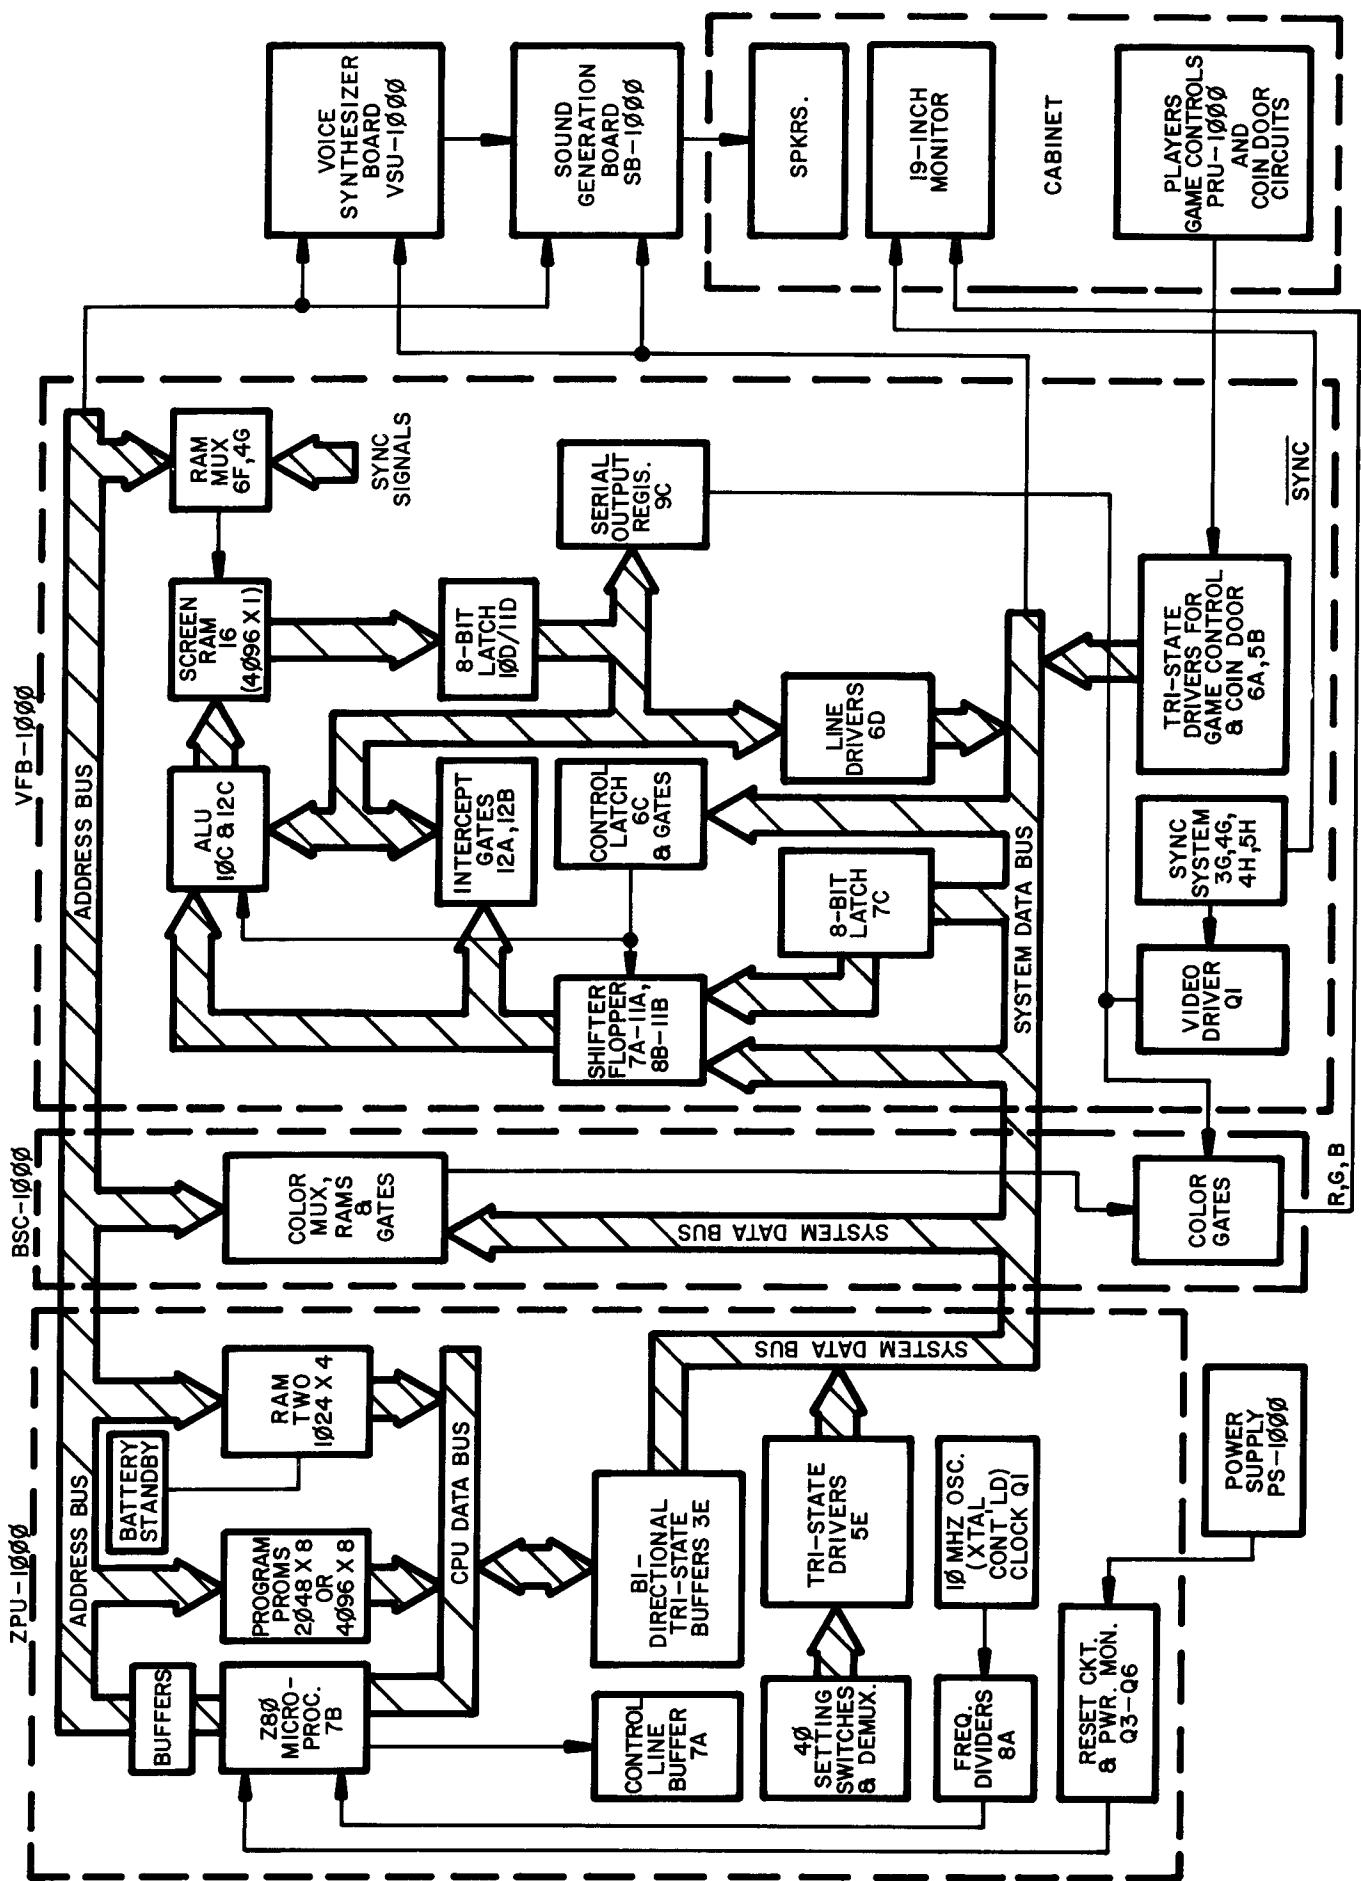

FIGURE 2-1 BLOCK DIAGRAM, SYSTEM
The system block diagram of Figure 2-1 illustrates an important concept of video games as follows. In addition to the usual numerical operations performed by the microprocessor (Z-80), it also generates a unique 8-bit data signal which is a binary number and also a digital video signal. This 8 bit byte can modulate the CRT video circuits to produce a visual pattern. A high logic level bit (1) will produce a bright spot with color while a logic low level (0) will produce a dark spot. Thus, each byte can control 8 picture elements (pixels) on the screen.
Figure 2-1 shows a third path from the System Data Bus leading to "control latch 6C and gates". This path operates only during a port write from the Z-80 and will store an 8-bit byte in the latch. This byte is constructed as an 8-bit control code rather than a video type signal. The port-write control byte is latched-in prior to the the video signal. The control byte will instruct the shifter/flopper circuits and the ALU (Arithmetic Logic Unit) circuit how they are to modify the video byte.